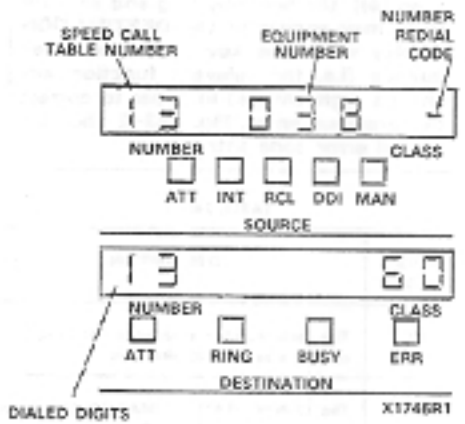

Fig. 243-2 Typical Entry Display
2. After digit entries are made (e.g. Step (4)), the bell may ring and an error code may appear in the DESTINATION display when the key in the next sequence (i.e. the relevant function key and its digit entries) in order to correct the previous entry. Fig. 243-2 shows a typical error code entry.